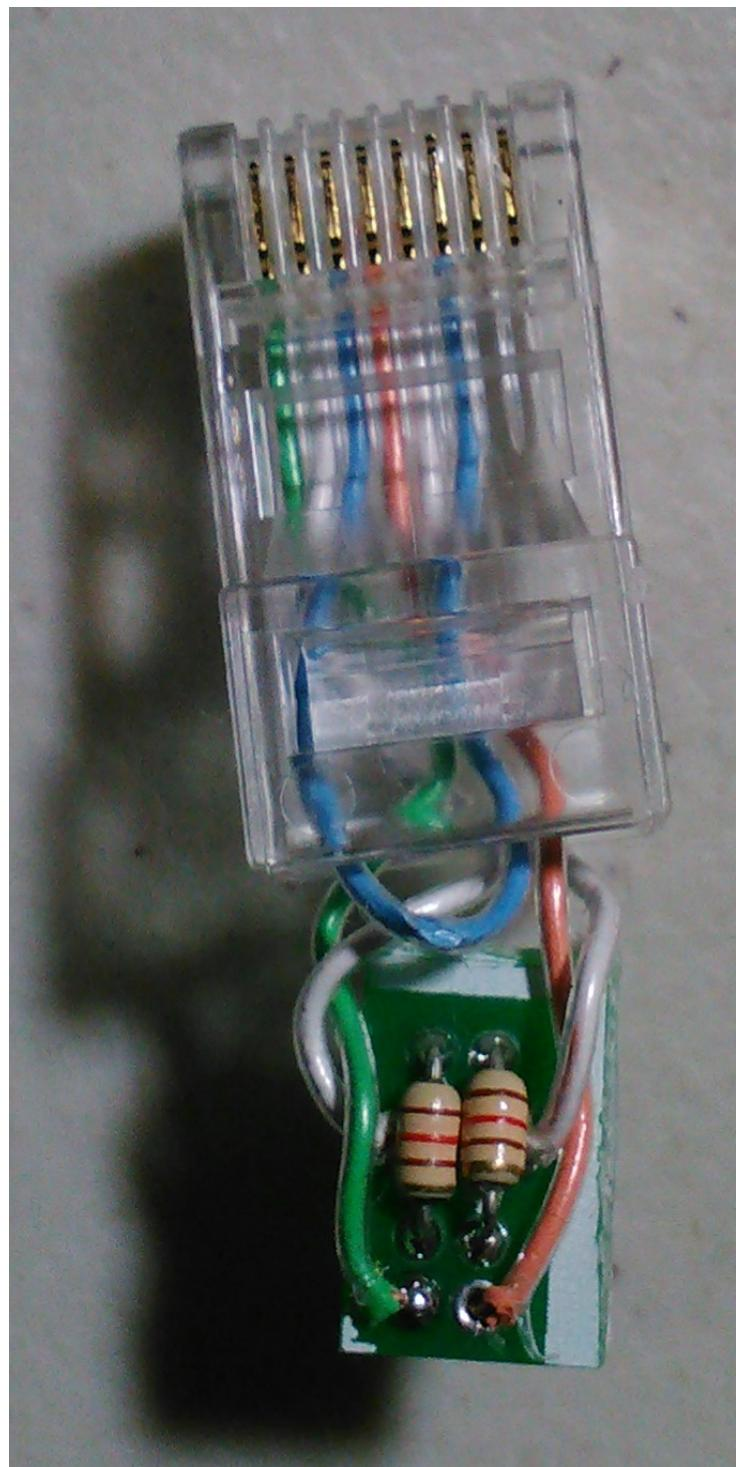

Figure 7.2: Fully Wired Terminator (Colors Vary from Text)
9. The board should now look like Figure 7.2.